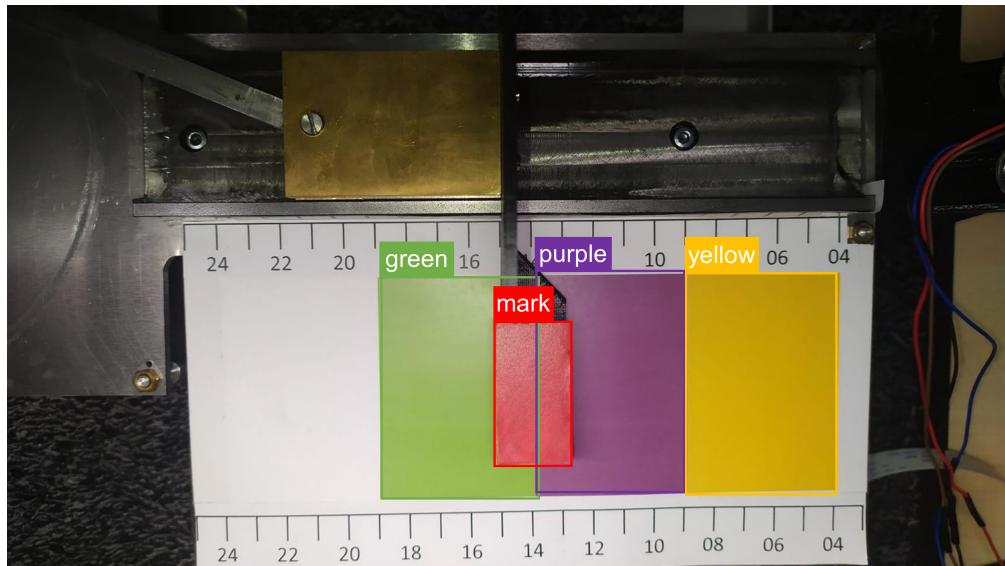

Figure 4.1: Image captured with the Camera Module connected to the Raspberry Pi B. The red mark and the zones are highlighted and labeled using OpenCV
2. Detect, highlight and label a red mark and three colors zones as shown in Figure 4.1.
1. `process_frame()`: This method has a `frame` parameter/argument, which is a frame captured by the Raspberry Pi camera, or returned by the fake camera if you are working on your local computer. It should process the frame and identify in which color zone the red mark is located. Use OpenCV for color detection [11] to track, highlight and label both elements in a frame similar to the one presented in Figure 4.1.